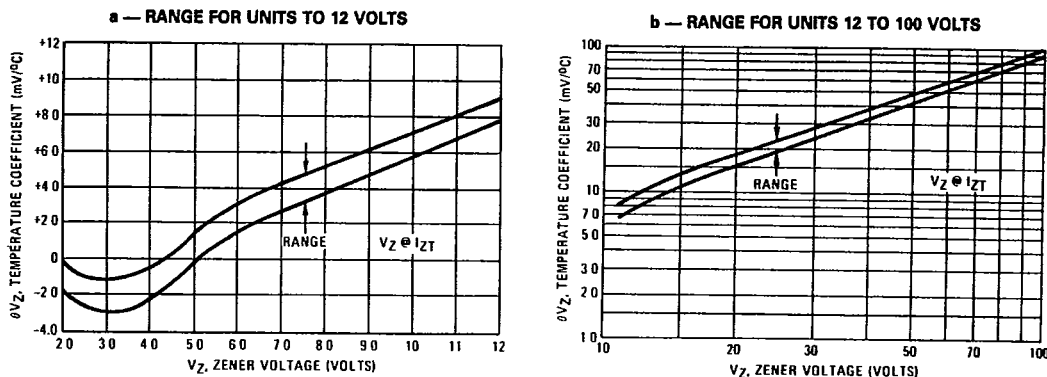

FIGURE 4 — EFFECT OF ZENER CURRENT
**NOTE 5. Surge Current (IS) Nonrepetitive** — The rating listed in the electrical characteristics table is maximum peak, non-repetitive, reverse surge current of 1/2 square wave or equivalent sine wave pulse of 1/120 second duration superimposed on the test current, IZT, per JEDEC registration; however, actual device capability is as described in Figures 4 and 6.